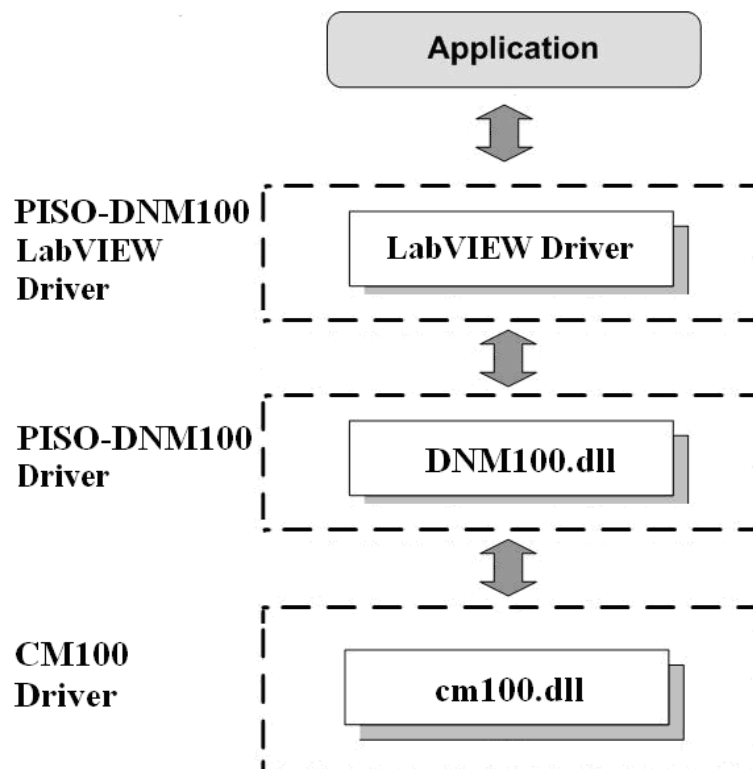

Figure 6.1 Driver concept of PISO-DNM100(U) LabVIEW driver
The PISO-DNM100(U) LabVIEW 8.x driver is the PISO-DNM100(U) function reference for the DeviceNet master device used on LabVIEW 8.x environment on Windows 2000/XP. Before users use this driver to develop the machine control system, the PISO-DNM100(U) driver must be installed first, because the PISO-DNM100(U) LabVIEW 8.x driver needs to call the function of it. The driver architecture is shown as Figure 6.1.